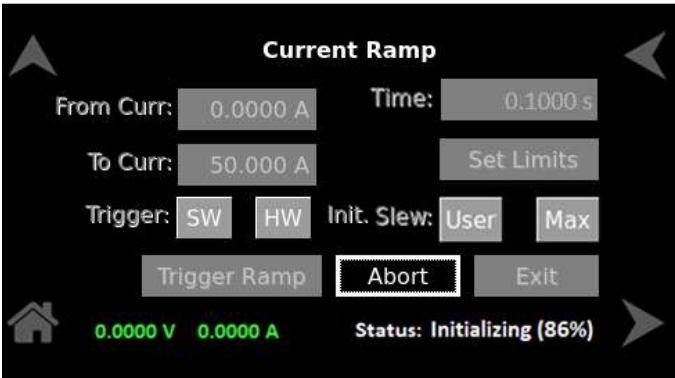

Figure 9-78. Status - Initializing
**b) Initializing** - When the system is initializing (configuring the device current value to the 'From Curr' value programmed in the ramp screen), and the progress is displayed as a percentage. Refer to Figure 9-78.